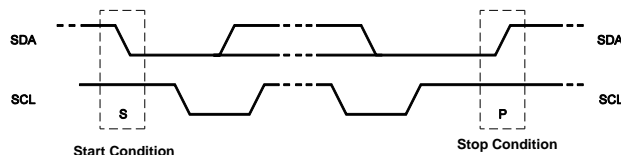

Figure 12: Start and Stop Conditions
The start (S) and stop (P) commands are signaled by the master device, which signifies the beginning and the end of the I²C transfer. A start condition is defined as the SDA signal transitioning from high to low while the SCL is high. A stop condition is defined as the SDA signal transitioning from low to high while the SCL is high (see Figure 12).